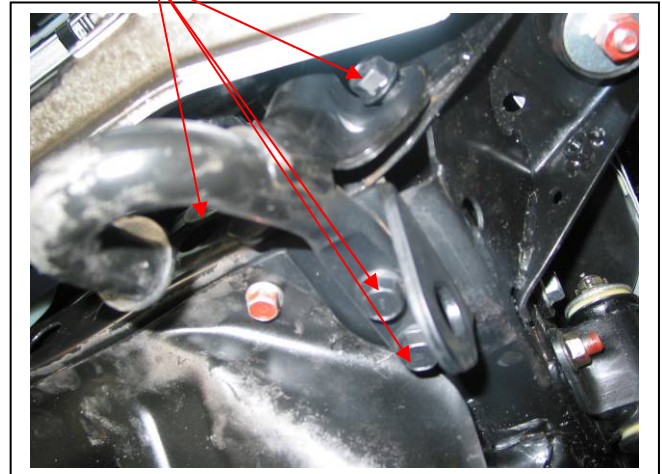

Figure 2 – Passenger side shown
5. Remove passenger side tow hook / tie down bracket. Four 17mm head bolts. **See figure 2.**